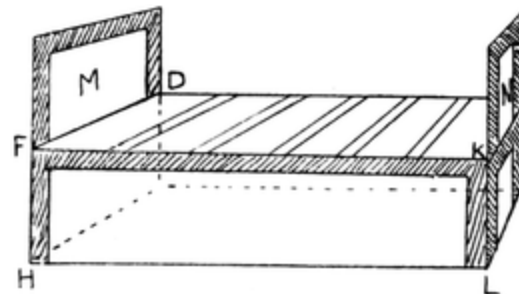

FIG. 29
28. Cut portions indicated. Gum A B C D to E F G H, the same the other side. Bend up M and N to form head and foot of bed. These can be cut any shape, or simply be coloured to represent beams. Legs can be drawn on or cut out of sides F H K L and B O D P (Fig. 29).